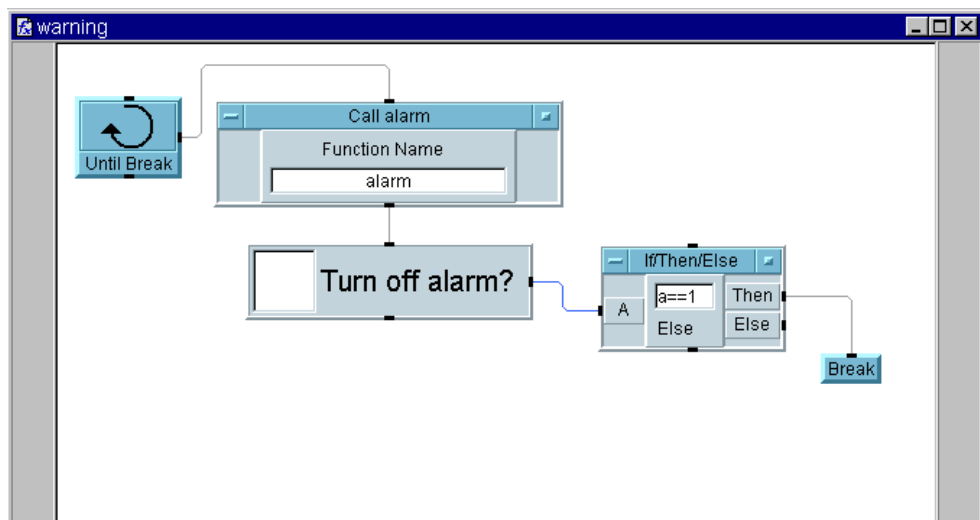

Figure 243 The Warning UserFunction (Detail View)
- 19 Select **Flow** $\Rightarrow$ **Repeat** $\Rightarrow$ **Break** and connect it to the **Then** output on the **If/Then/Else** object, as shown in Figure 243.